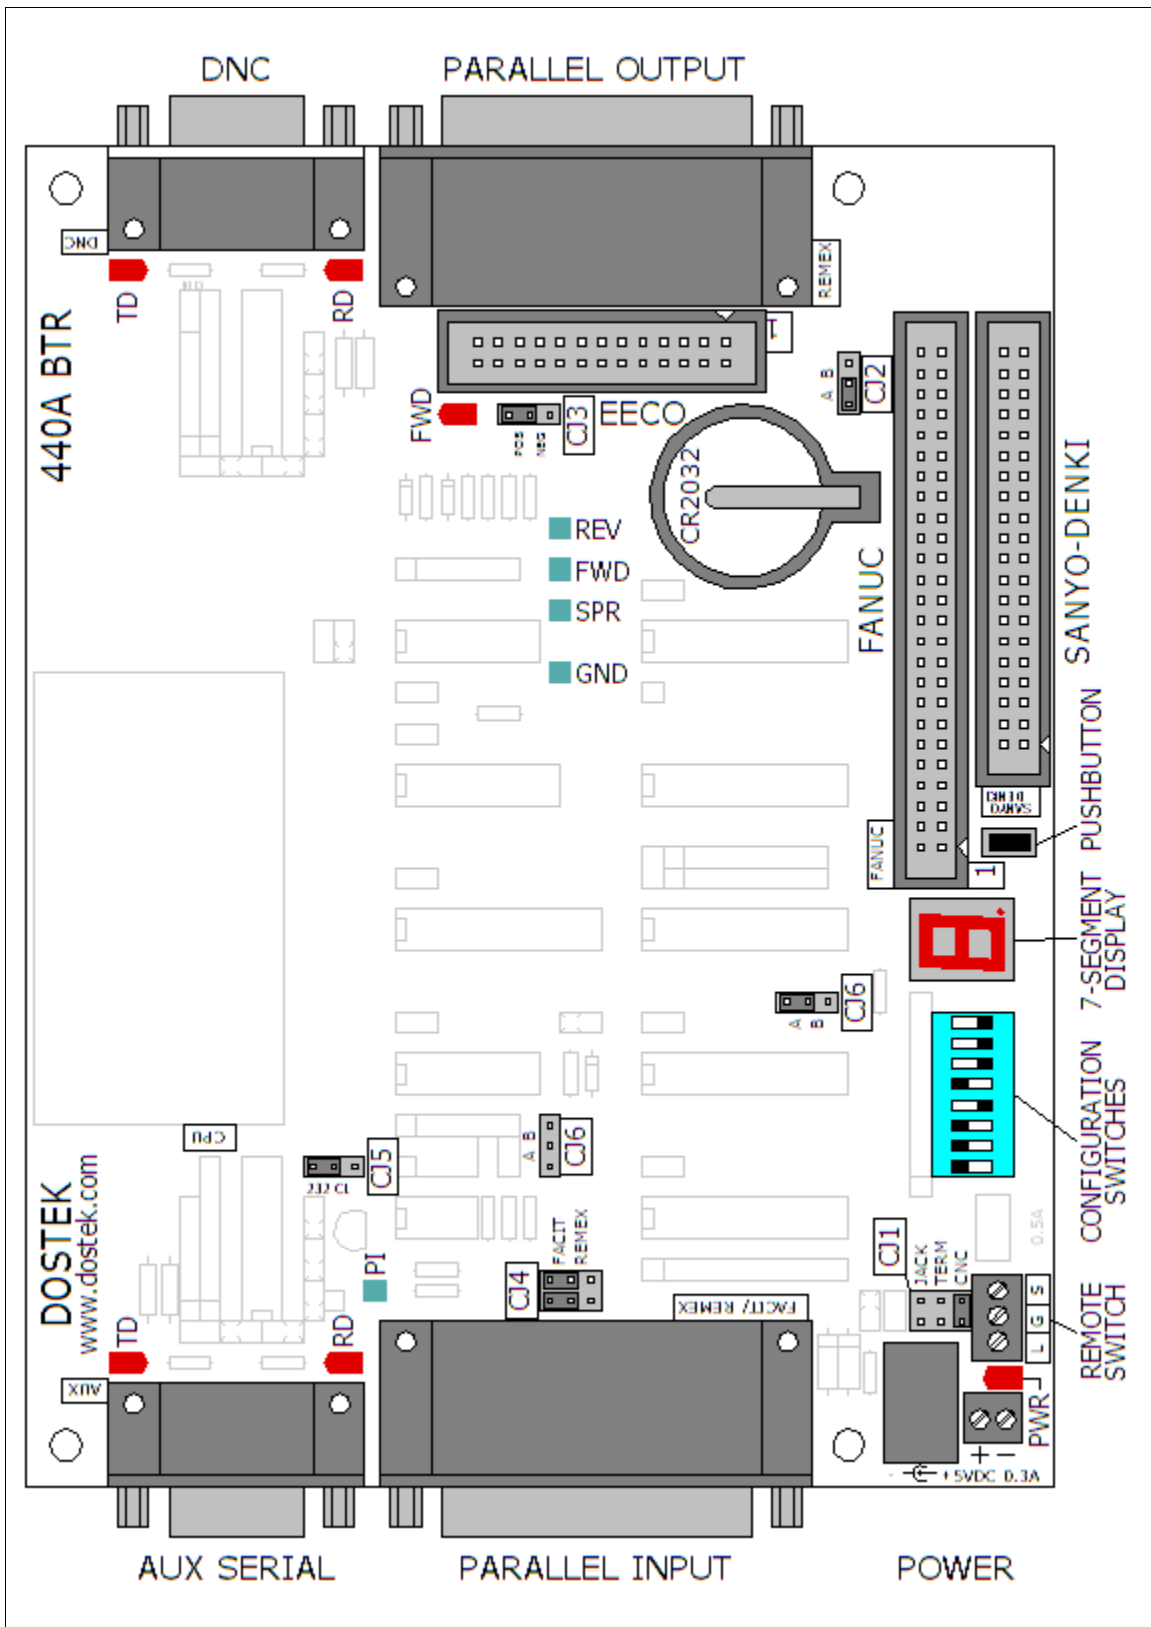

Figure 1 - Connections, Controls and Indicators
- › To identify the location of each connector, see Figure 1 on page 2.